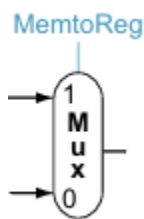

Figure 1.5: 2 to 1 Mux
3. Implement the functional unit shown in figure 1.5 which adds one operand to 4. Both the operands are 32-bit.